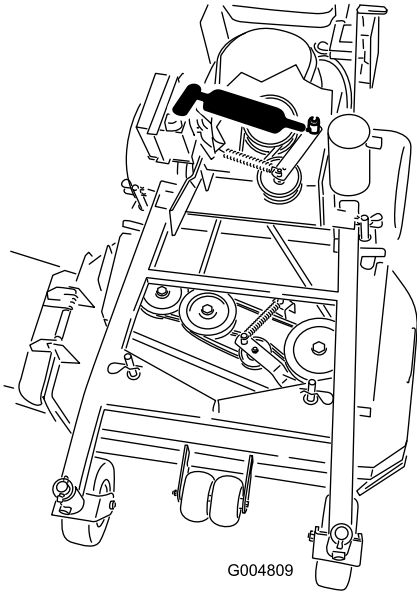

Figure 3
2. Check the mower belt idler arm for grease (Figure 2 or Figure 3).